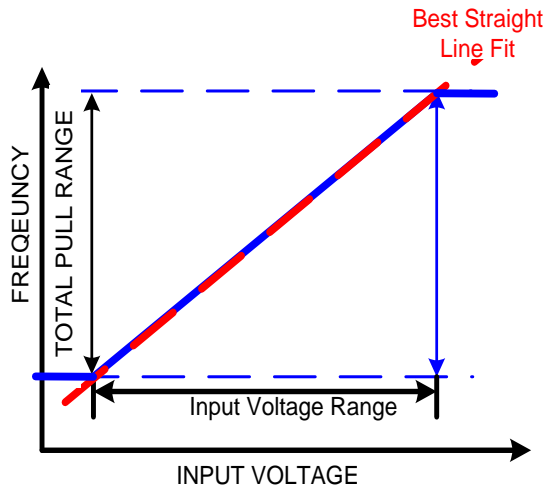

Figure 39. Typical KDS VCTC-MO Linearity
In any VCTC-MO, there will be some deviation of the frequency-voltage (FV) characteristic from an ideal straight line. Linearity is the ratio of this maximum deviation to the total pull range, expressed as a percentage. Figure 39 below shows the typical pull linearity of a KDS VCTC-MO. The linearity is excellent (1% maximum) relative to most quartz offerings because the frequency pulling is achieved with a PLL rather than varactor diodes.